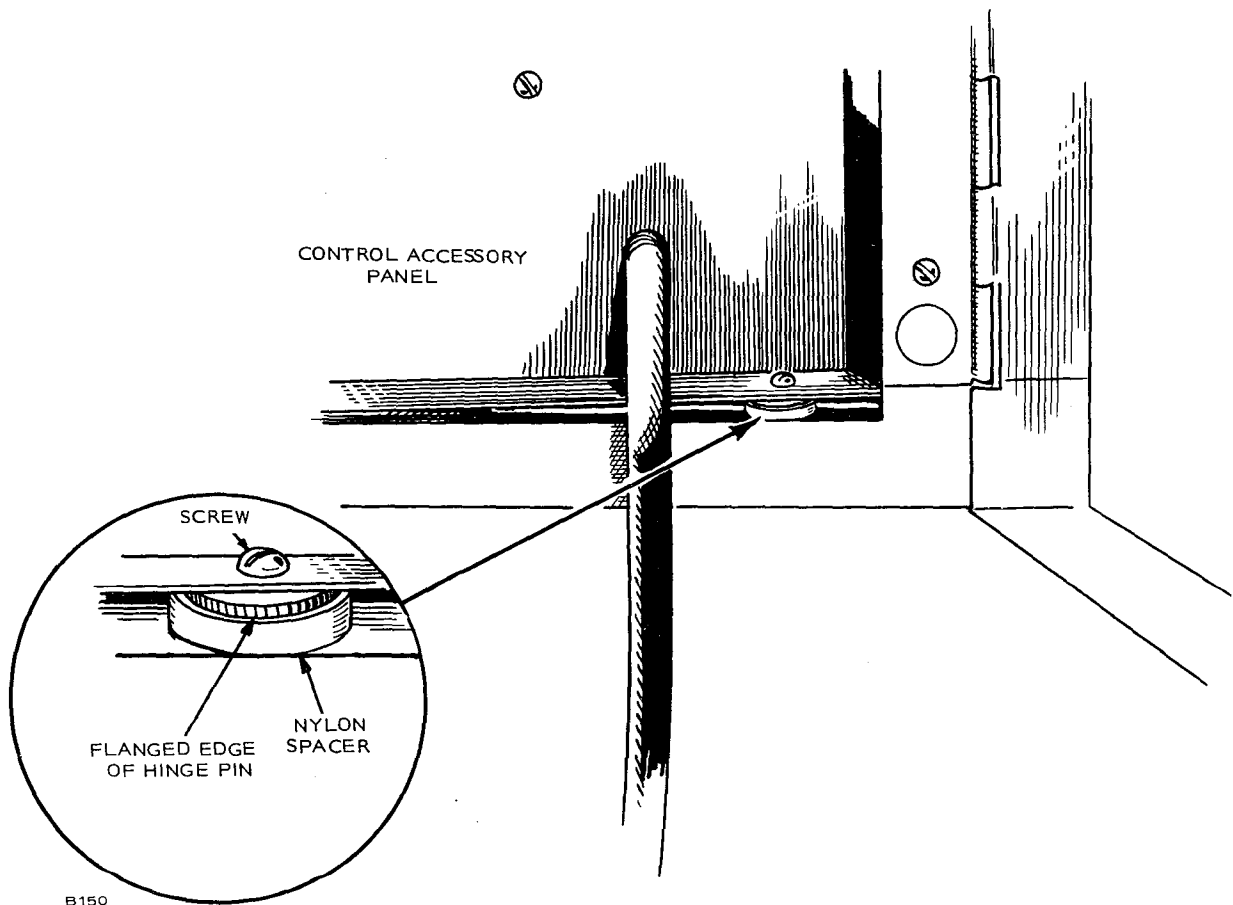

FIGURE 4. BOTTOM HINGE PIN FOR CONTROL ACCESSORY PANEL
screw from pin with a screwdriver. The pliers prevent the pin from turning when loosening the screw (Figure 4).
6. Hold the flange edge of the control accessory panel's bottom hinge pin with a needle-nose pliers (just above nylon spacer) and remove screw from pin with a screwdriver. The pliers prevent the pin from turning when loosening the screw (Figure 4).